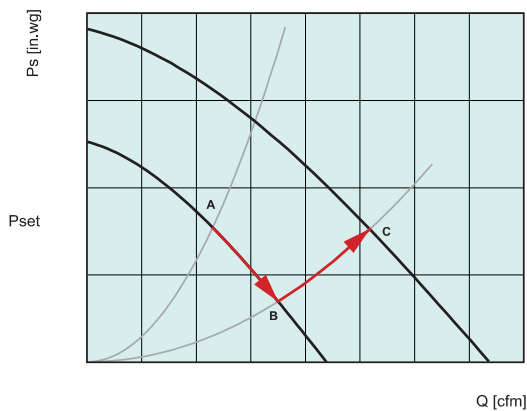

Figure 3. Exhaust fan ramp up
- C** Fan operating point from **figure 3** with multiple dampers open